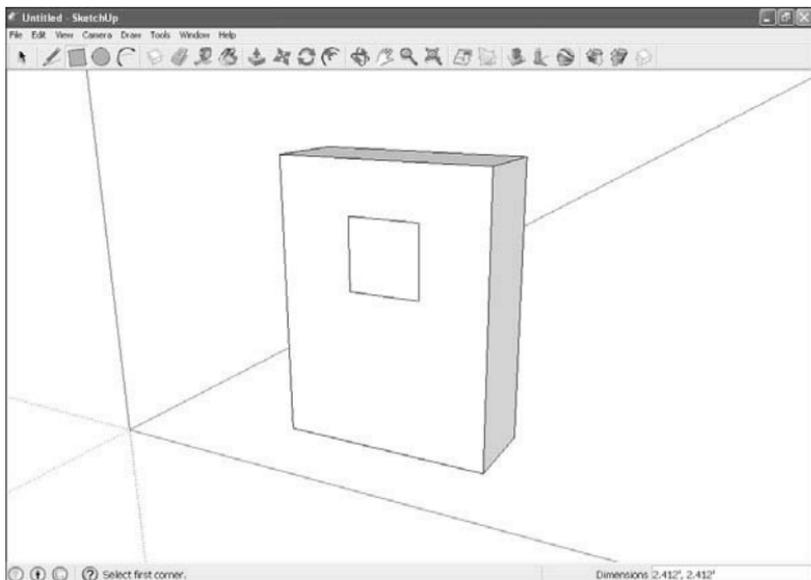

FIGURE 5.10 A 3D wall with a rectangle.
3. Draw the 2D outline of the window you want to cut into the wall. You might use a rectangle, as shown in Figure 5.10.